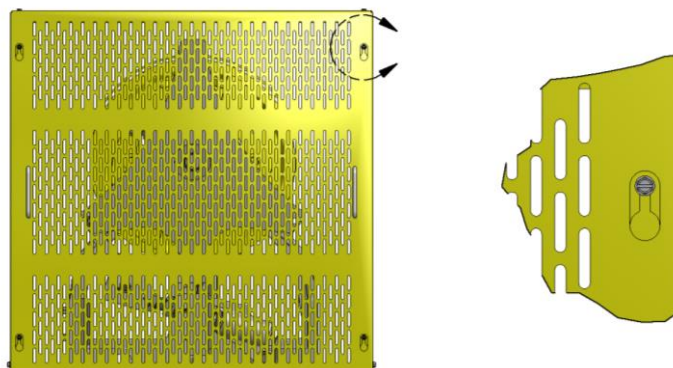

Figure 6: Access Panel Attachment
- To remove the access panels (p/n 201-104 or 207-104) to access the governor, loosen the four (4) screws in each corner of the access panels. See Figure 6 below. It is not necessary to completely remove the screws due to the attachment method provided. By only loosening the screws it helps to reduce the risk of lost hardware and/or FOD (Foreign Object Debris) in the area.
- After the four (4) mounting screws have been adequately loosened, the access panels may be first lifted vertically a short distance and then pulled away from the governor guard assembly for removal.
- Reattachment of the access panels (p/n 201-104 or 207-104) can be done by reversing the process described above. Ensure the four (4) mounting screw are securely tightened after the access panels (p/n 201-104 or 207-104) are reattached.